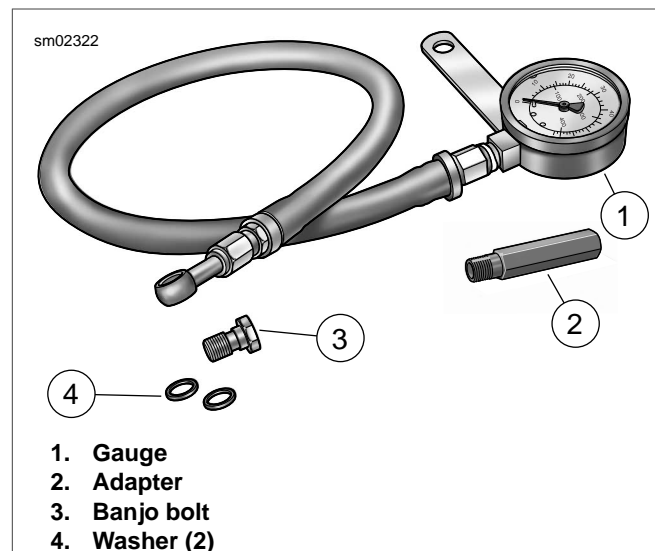

Figure 3-10. Oil Pressure Gauge Set
3. See Figure 3-10. Install OIL PRESSURE GAUGE SET (Part No. HD-96921-52D).
- a. Install adapter (2) in oil pressure switch mounting hole. Tighten adapter until snug.
- b. Assemble banjo bolt (3), washer (4), oil pressure gauge (1) banjo fitting and second washer onto adapter and tighten until snug.